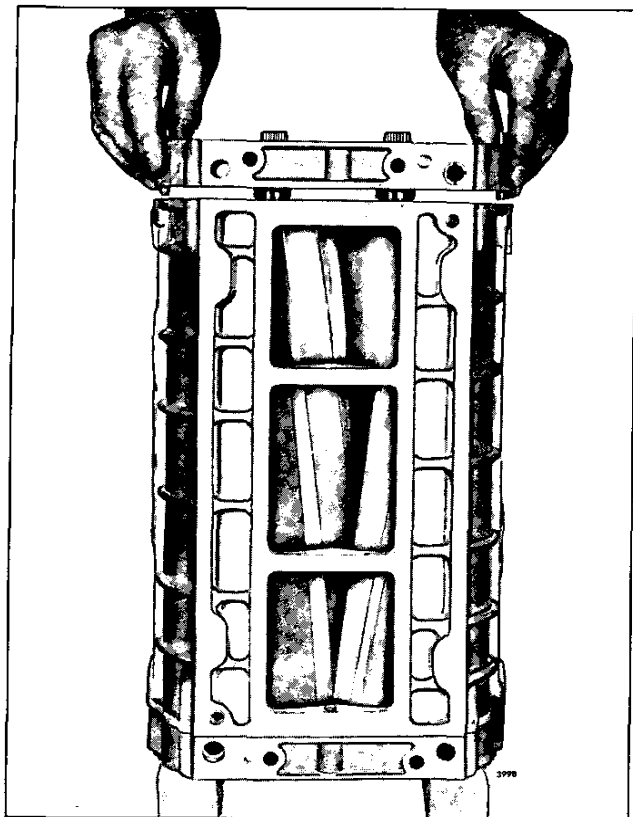

Fig. 15 – Installing Rear End Plate on Blower Rotors and Housing
6. Position the blower housing over the rotors, rear end of housing up, with the bottom of the housing facing toward the bottom of the end plate (Fig. 15). Lower the housing over the rotors and start it straight on the dowel pins in the front end plate, then push it down tight against the end plate. If necessary, tap the housing lightly with a plastic hammer.
- d. Lower the end plate straight over the rotor shafts until the dowel pins in the end plate contact the blower housing (Fig. 15), then carefully work